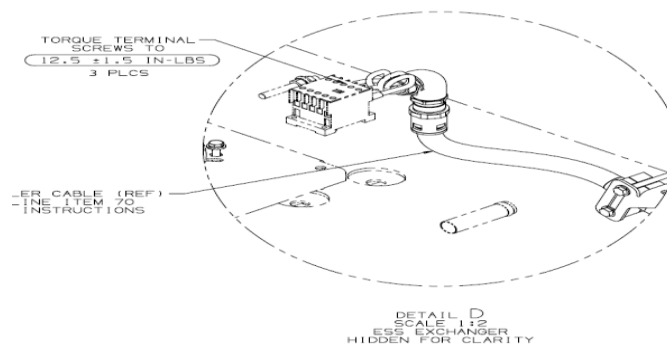

Figure 9: ESS Exchanger Connection Detail
37. Ensure ESS Exchanger connections are torqued to 12.5 +/- 1.5 IN-LBS shown in Figure 9.